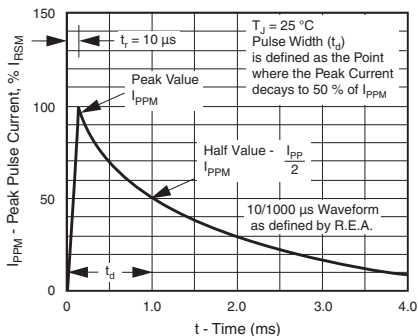

Figure 3. Pulse Waveform
(1) Non-repetitive current pulse, per Fig. 3 and derated above  $T_A = 25\text{ °C}$  per Fig. 2
(2) Mounted on 0.31 x 0.31" (8.0 x 8.0 mm) copper pads to each terminal